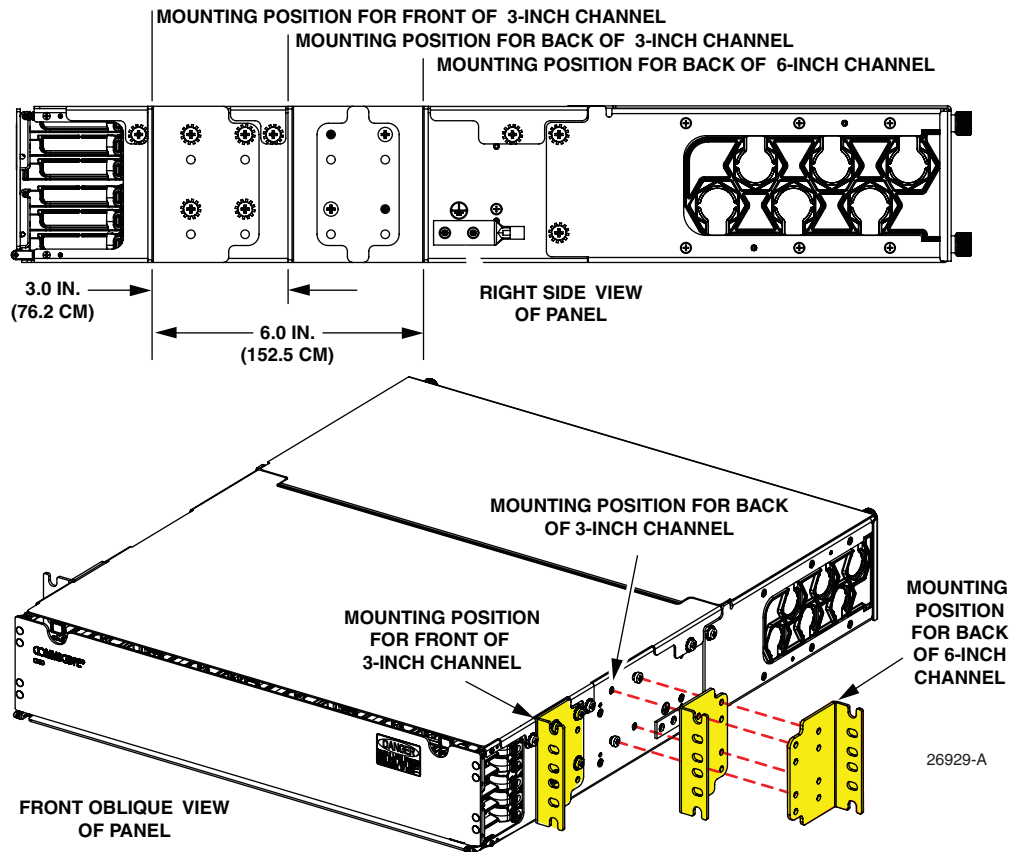
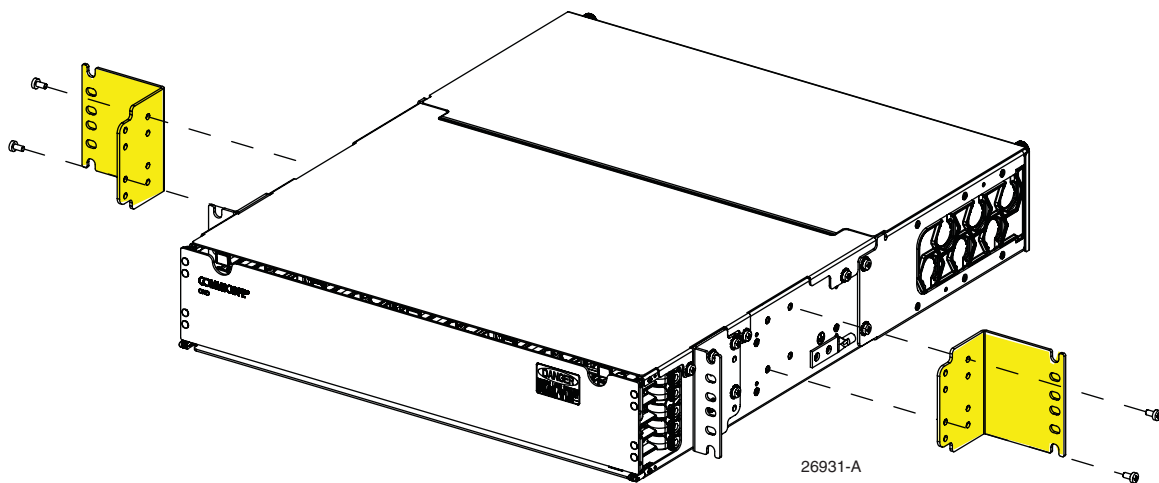

Figure 7. Mounting Options
Figure 8. Removing the Shipping Brackets
The panel can be installed in a 19-inch (48.26 cm) or 23-inch (58.42 cm) equipment rack with a 3-inch or 6-inch channel, as shown in Figure 7.
2. Select the mounting position to be used referring to Figure 7. If required, remove and re-install the mounting brackets on the panel as shown in Figure 8 using the screws holding the brackets when shipped.